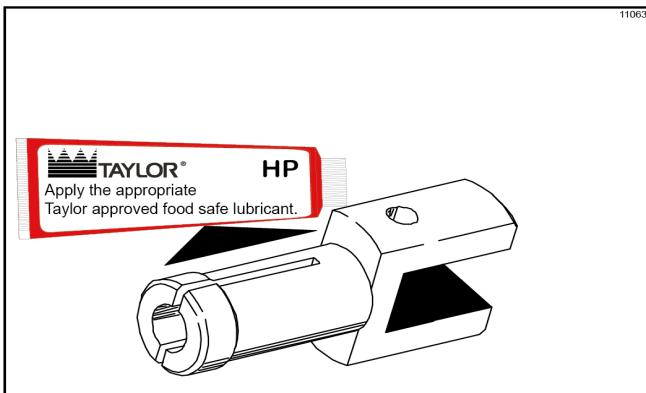

Figure-118
9. Lubricate the smaller end of the driven spinner. (See Figure-118.)